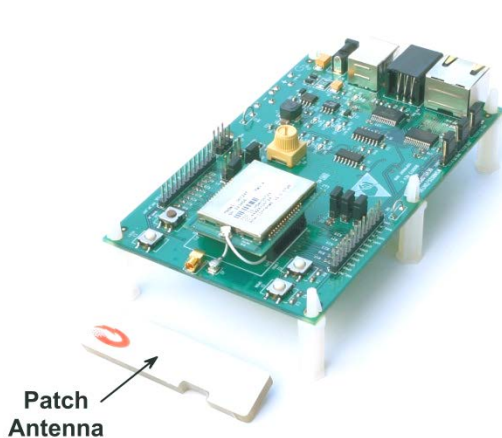

Figure 8.4.1
1. Figure 8.4.1 shows a DNT24P radio installed on an interface board, and a patch antenna. Observe ESD precautions when handling the kit circuit boards. Install a patch antenna on each interface board by pressing the antenna into the interface board RF connector with moderate pressure until the antenna snaps onto the connector, as shown in Figure 8.4.2. Note that no external antenna is required when using the DNT24PA radios supplied in the DNT24A Kits.